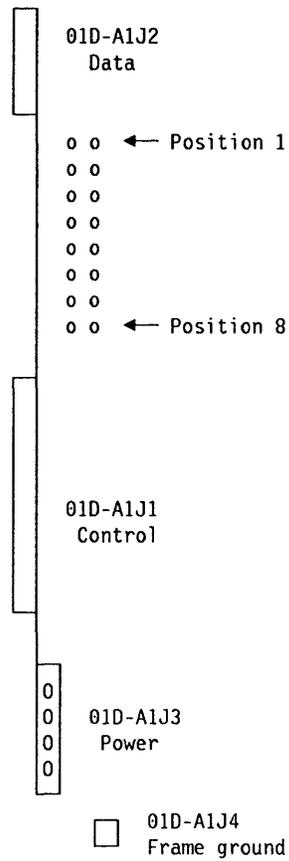
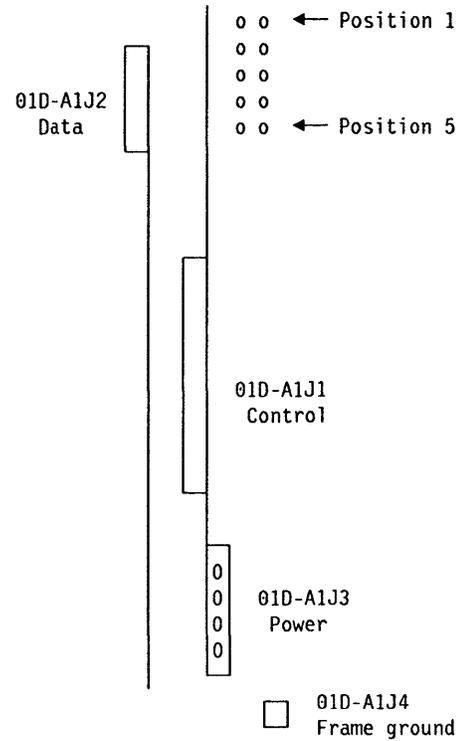

Figure 4-77. HDD connectors and jumpers (old model).
Figure 4-78. HDD connectors and jumpers (new model).
1. Ensure that there is a jumper in position 1 of the new HDD. Refer to Figure 4-78 or to Figure 4-77 on page 4-57 according to the HDD type.